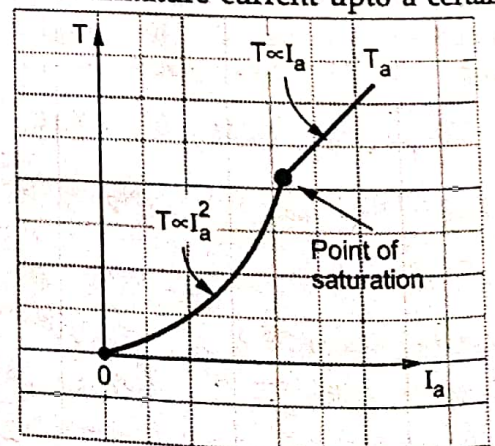

Fig. Q.48.1 T Vs I_a for series motor
- Thus torque in case of series motor is proportional to the square of the armature current. This relation is parabolic in nature as shown in the Fig. Q.48.1.